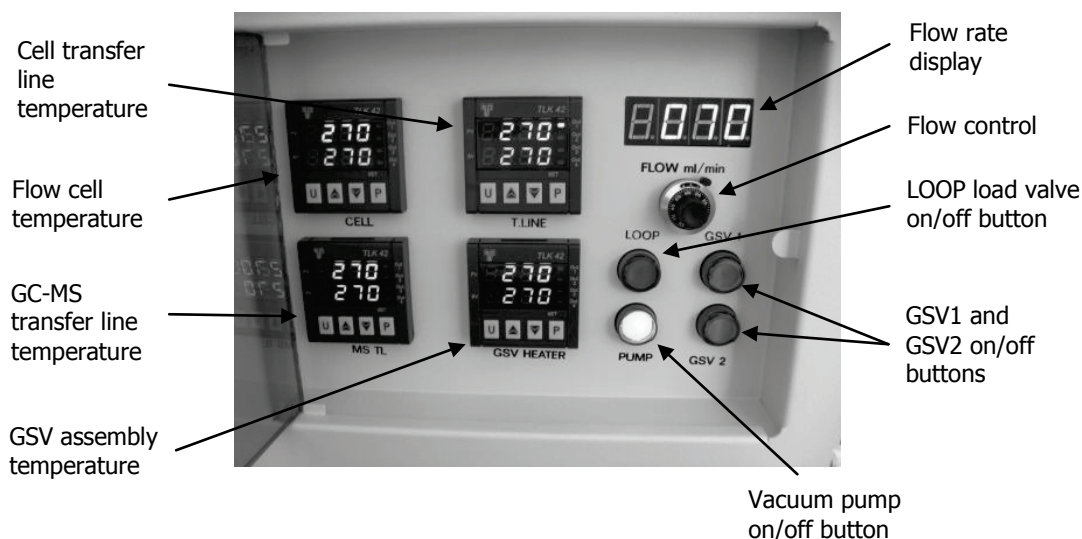

Figure 66 Front panel of TL 9000 controller module
2. Open the door on the front of the module to reveal the front panel (Figure 66).